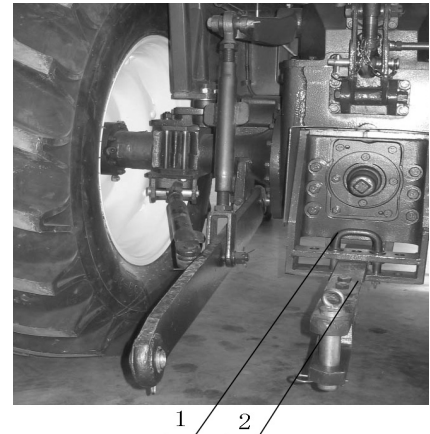

Figure 3-1 Swing Traction Application
The swing traction rod is used for traction type farm machinery. The traction rod rear end connects with the farm machinery by a traction pin. The traction rod can swing right or left, making it more convenient for mounting farm machinery. When the tractor is towing farm machinery backward, however, the positioning pin (1) must be inserted into the hole of the traction plate, in order to stabilize the traction rod (2) (Figure 3-1).